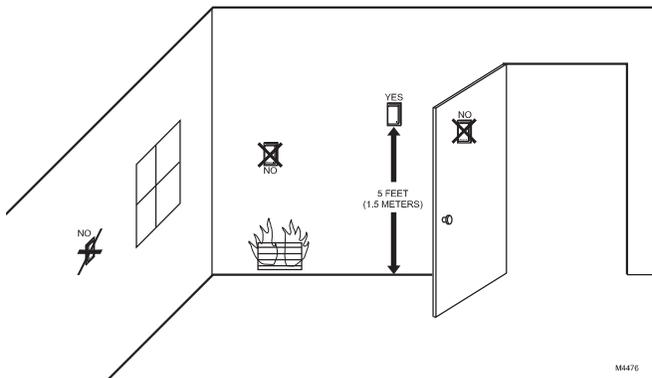

Fig. 27. Typical location for C7189 Indoor Sensor.
- Choose a location (see Fig. 27) for mounting the sensor on an inside wall about 5 ft (1.5m) above the floor. A vertically-mounted standard 2 x 4 in. (51 x 102 mm) junction box can also be used.
- Make sure there is good air circulation at average temperature at the chosen location. Avoid the following locations because they can introduce errors in sensor measurements. See Fig. 27.